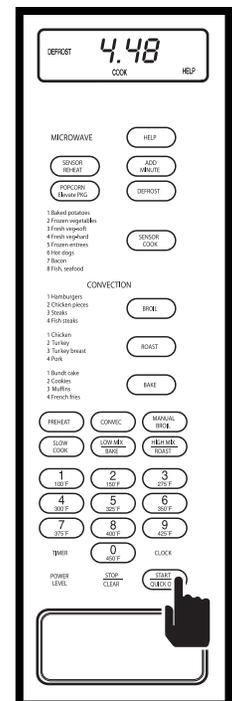

Figure 3-55.
5. Press QUICK ON/START key to resume the auto defrost process. Display will show the remaining time as it counts down along with the word "DEFROST" (See Figure 3-55). At the end of the defrost time, "LET - STAND - COVERED" will flash on display and alarm will beep.